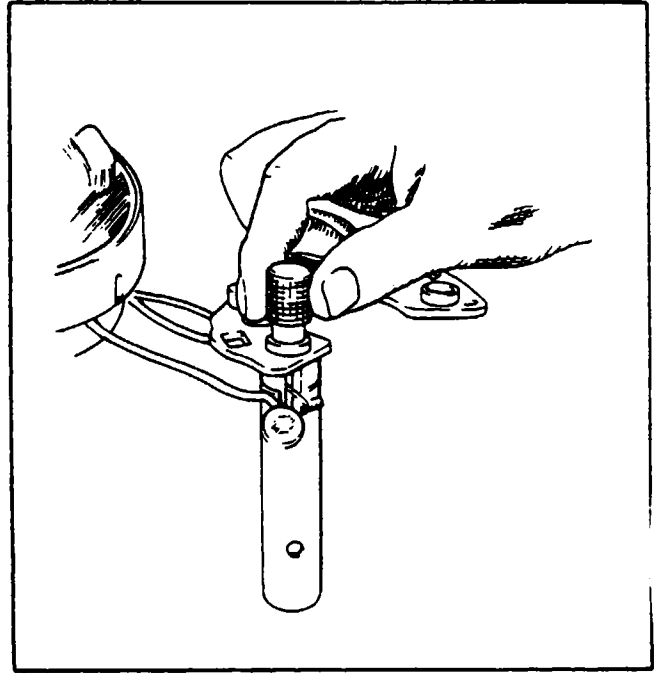

Figure 11-3. Removal of Rectifier
- d. Remove the nuts, lock washers, flat washers, and insulators from the output and auxiliary terminal studs. Note carefully the correct assembly of the insulator washers and bushings. Using the special tools shown in Figure 11-3, support the end head and press out the three negative rectifiers. The end head can now be separated from the stator assembly.